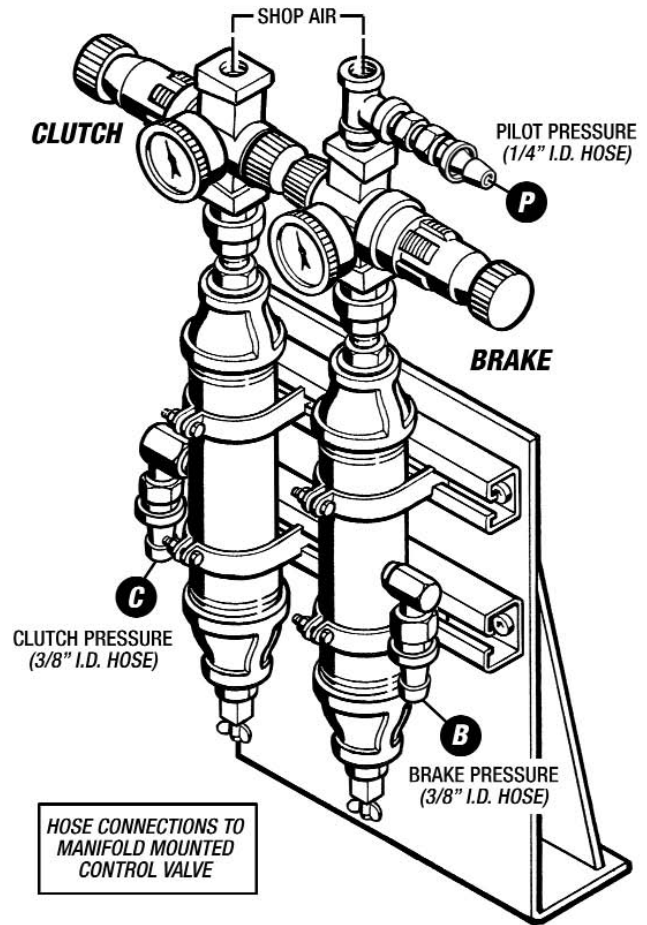

Figure 3 - Pneumatic System
(See Figures 3 and 4)
Both the Control Valve and the Accumulator Assembly is shipped with all the fittings attached as shown in Figure 3.
1. Install the Pneumatic Accumulator Assembly as close as possible to the Posidyne Clutch/Brake and connect the hoses to the Manifold Mounted Control Valve as shown in Figure 3